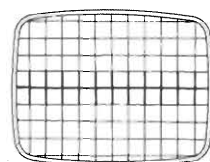

FIG. 6
3. Move red horizontal slider closer to, or away from, the picture tube-neck and rotate red horizontal static magnet to converge red and green vertical lines at the center horizontal lines. (See Fig. 6.)
4. Move blue horizontal slider closer to, or away from, the picture tube-neck and rotate blue horizontal static magnet to converge the blue lines with the previously converged red and green vertical lines at the center horizontal line. (See Fig. 6.)